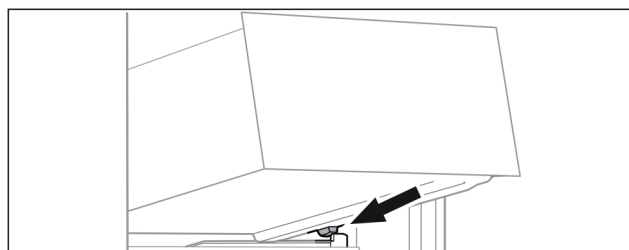

Fig. 67
- ▶ Place drawer at an angle behind the stoppers on the moulded rib. (see Fig. 67)